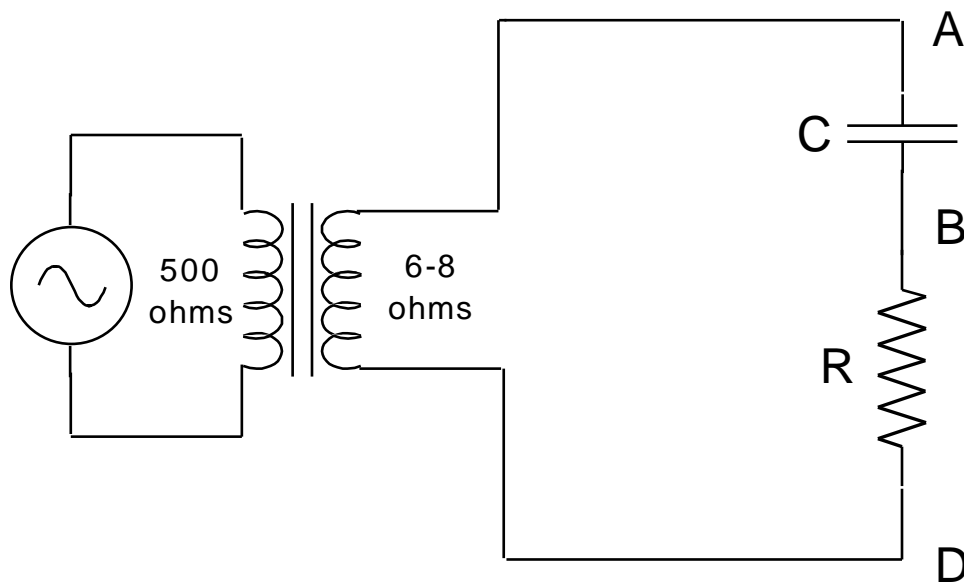

Figure 3
**B1: Amplitudes.** Assemble the circuit in figure 3. The circle with part of a sine wave in it represents a function generator set to produce sinusoidal voltages.
Use the dual trace feature of your oscilloscope to observe both  $V_C(t)$  on channel 1 and  $V_R(t)$  on channel 2. Because both oscilloscope inputs have the same ground, point B in figure 3 must be connected to the grounded (black) terminal. (You faced the same situation in experiment 6, “Using an Oscilloscope”, part H, “Studying a Diode with a Dual Trace Oscilloscope”, on page 50.) This leads to the mildly distressing fact that although channel 1 displays  $V_{AB}(t) = V_C(t)$ , as desired, channel 2 displays  $V_{DB}(t) = -V_R(t)$ , the negative of the voltage across R. You can (and should) eliminate this distress by depressing Menu “2” then “Invert On”.